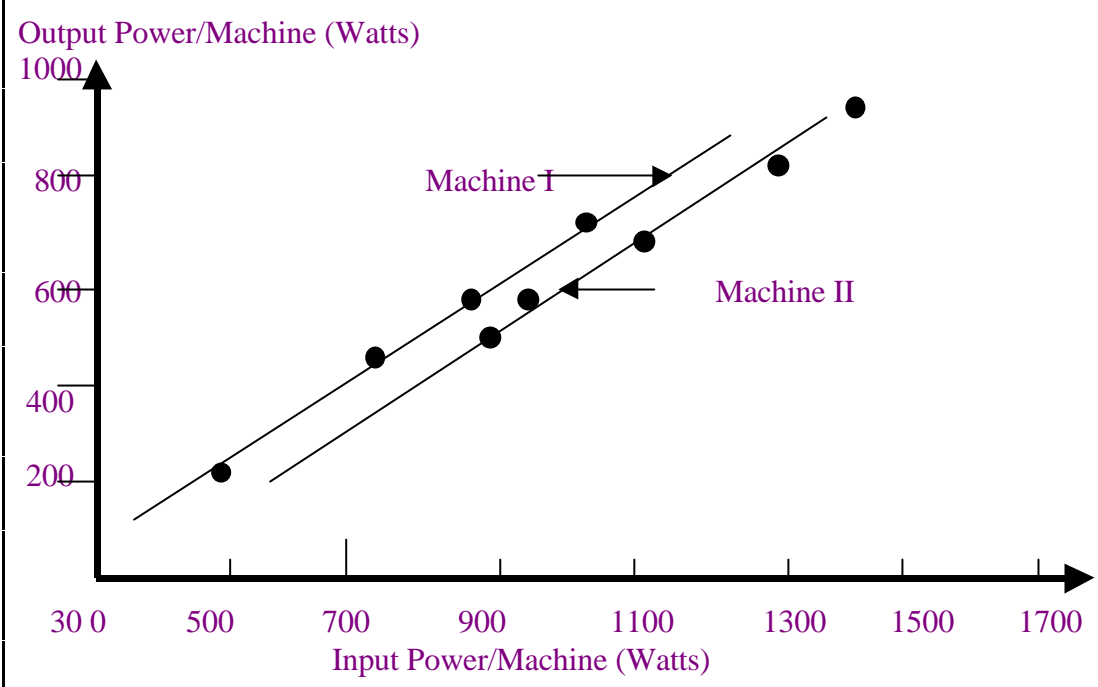

FIG.3
9. A graph of output (in VA) versus excitation as shown in FIG.3 is plotted.